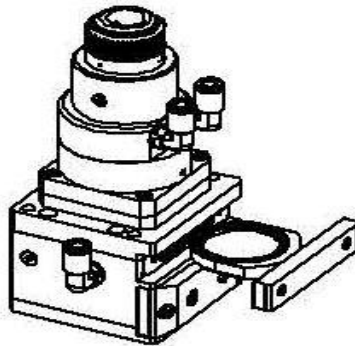

Figure 5.3 — Removal of top cover glass
- Use an inner hexagon spanner to unscrew the screw of top cover glass (as shown in figure 5.3);